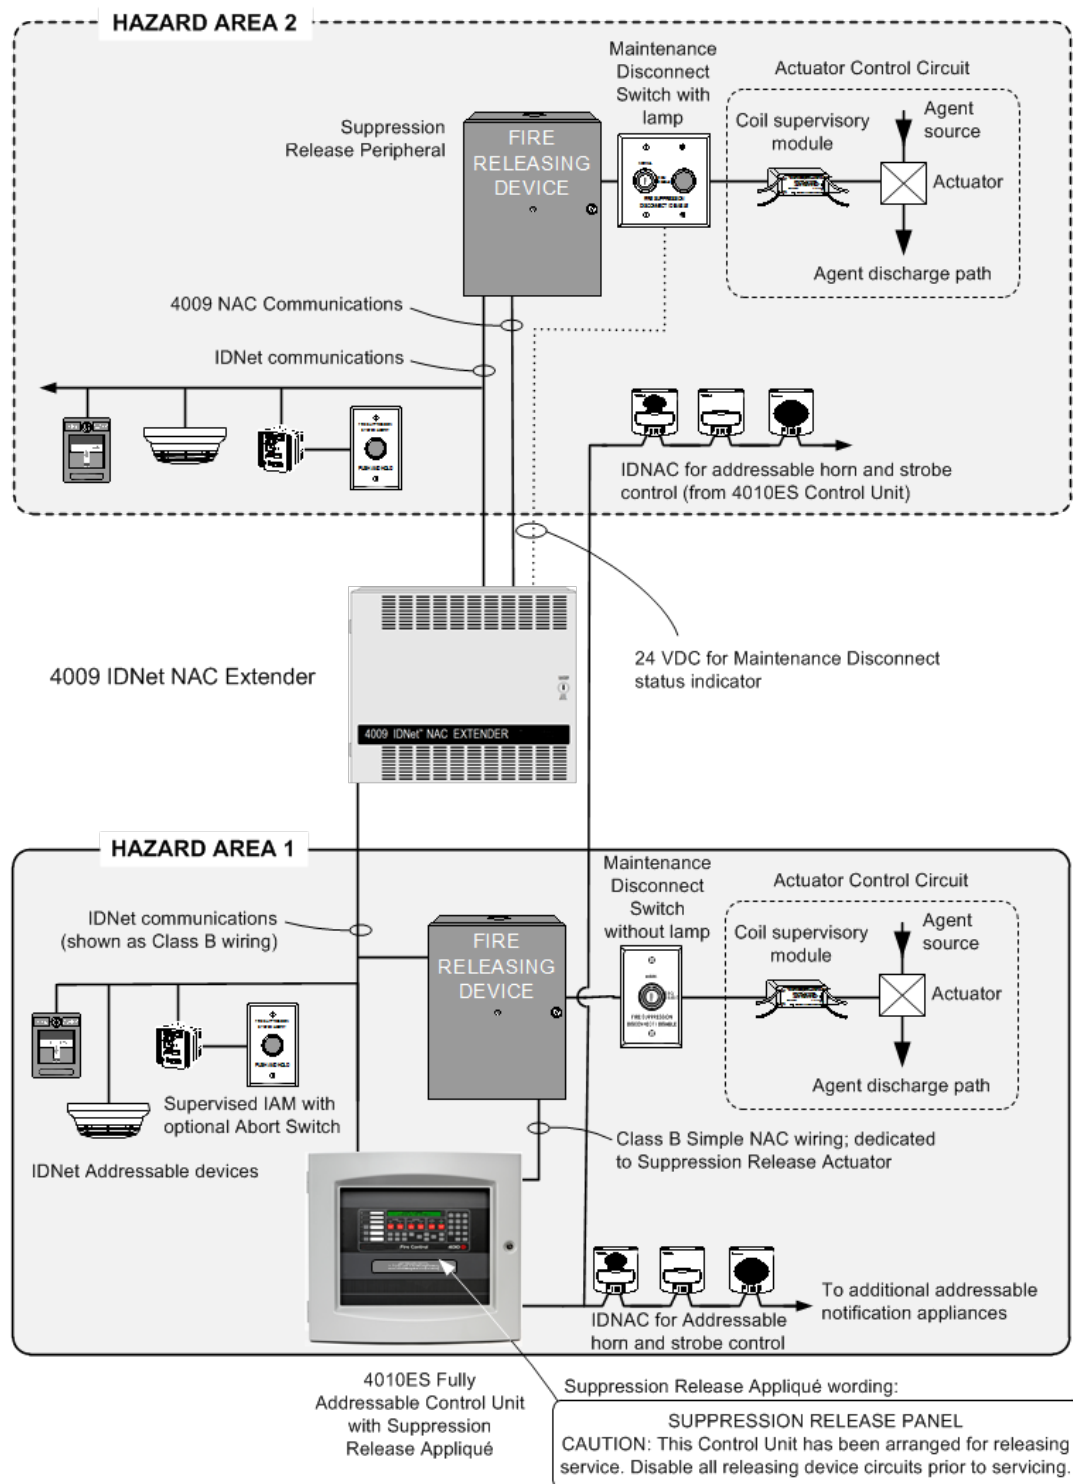

Figure 2: One-Line Connection Reference
2. **Coil Supervision Module A2081-9046** must be wired electrically before the actuator and located in the actuator wiring junction box. (Refer to Figure 2.) The connected RAC provides continuity supervision of the actuator coil and wiring and provides short circuit supervision to the coil supervision module.